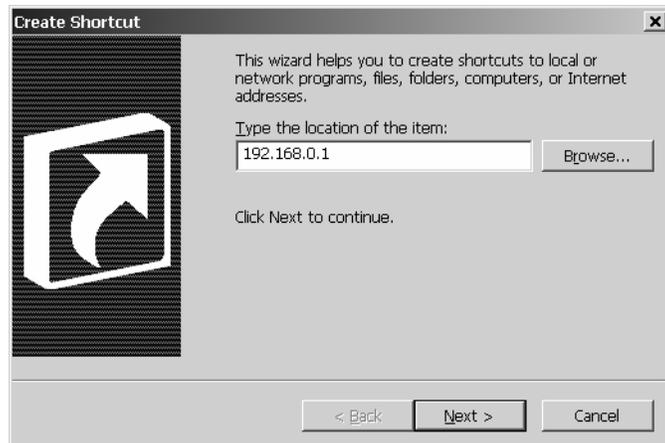

Figure 79: Entering the System Control Center URL in the Create Shortcut window
3. Type **192.168.0.1** in the field on the Create Shortcut window as shown in Figure 79.